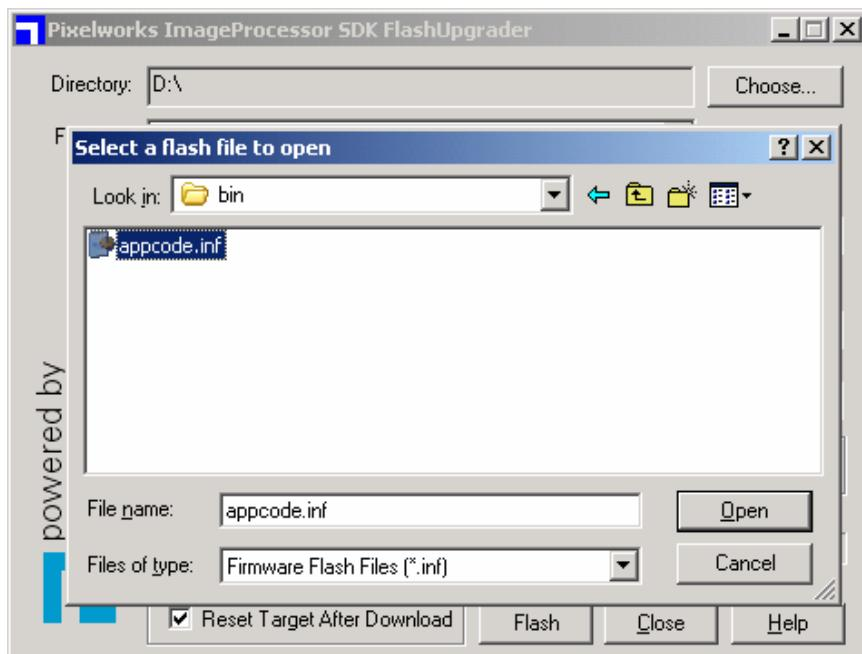

Figure 3
Horizontal & Vertical Thickness Pattern (Figure 3)
- (5) Select “Choose” in the FlashUpgrader dialog box, as shown in Figure 3, to browse for the appropriate appcode.inf file.
- 1.4 Put the LCD TV on the bottom cushion. (Figure 3)
(Figure 3)